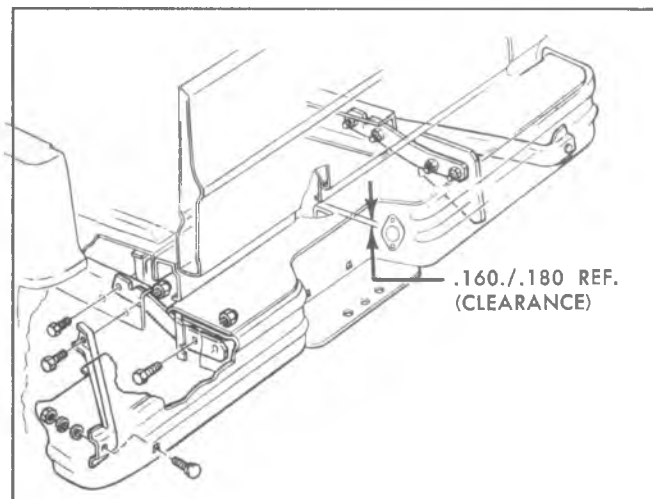

Fig. 2B-4-Rear Step Bumper C and K Models
4. If equipped with bumper guards (Fig. 2B-6) they may be removed from the face bar at this time.